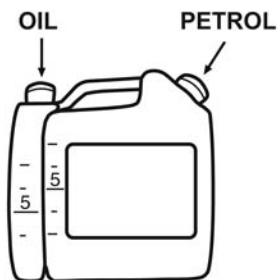

Fig. 9
- > The recommended mix ratio is 40:1 (Fig. 9).